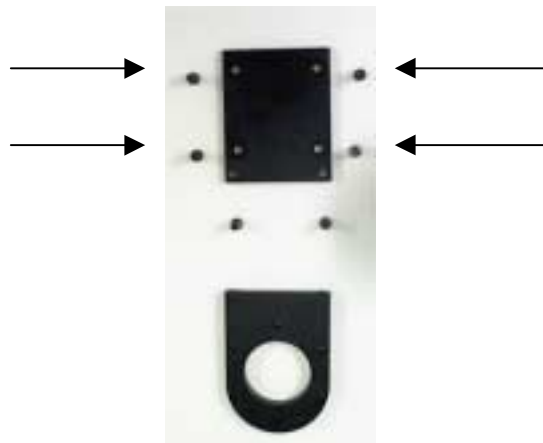

Figure 2.
5. Next, remove the four screws that hold the Z-axis adapter plate to the Z-motor. (See Figure 2).